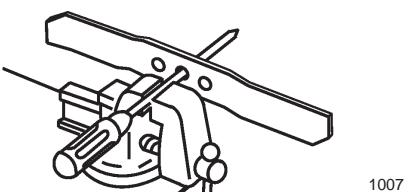

Figure 28
1. Check the balance of the blade by placing the center hole of the blade over a nail or a screwdriver shank clamped horizontally in a vise (Fig. 28).